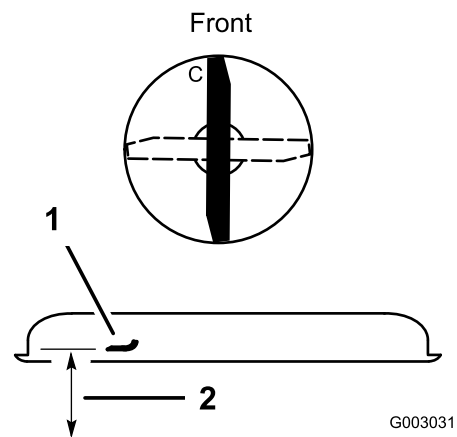

Figure 47
1. Rotate the blade until the ends face forward and backward (Figure 47).
2. Measure from a level surface to the cutting edge, position C, of the blade (Figure 47). Note this dimension.